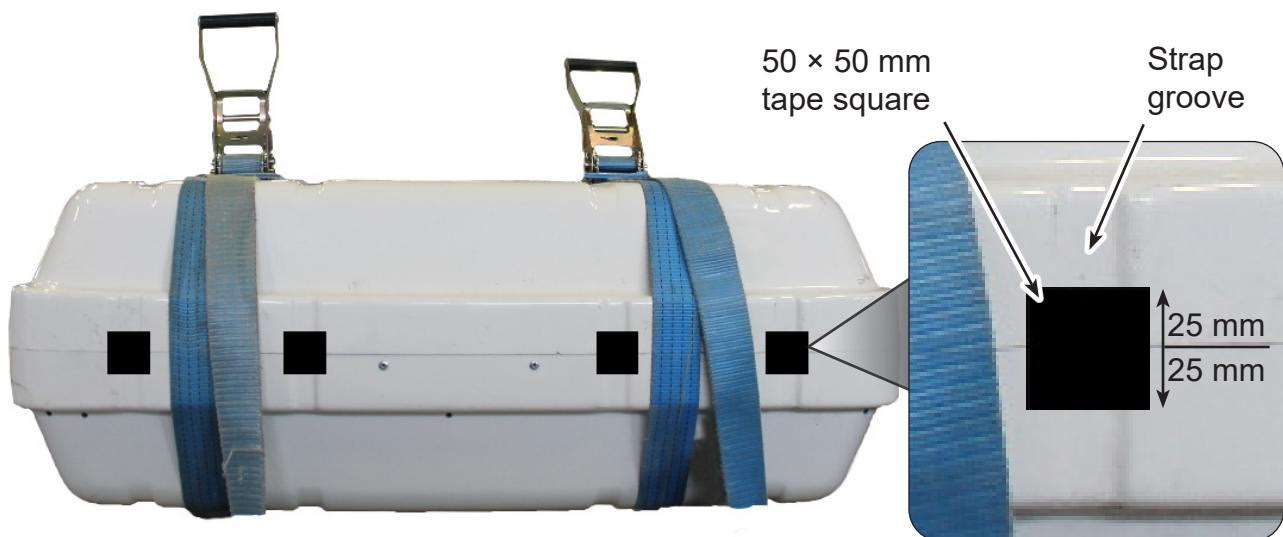

FIGURE 899T
- 9.55 Put the tape square on each container strap groove so that it covers approximately 25 mm of each strap groove. Refer to **Figure 899T**.